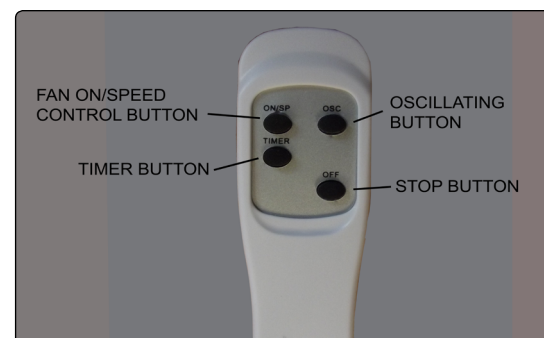

fig.7
- 5.4.1. FAN ON/SPEED CONTROL BUTTON :- Press to switch on, press again to scroll through speed settings. fig.7.
- 5.4.2. OSCILLATING BUTTON :- Press to switch on oscillation, press again to switch off oscillation. fig.7.
- 5.4.3. STOP BUTTON :- Switches fan off. fig.7.
- 5.4.4. TIMER BUTTON :- Press to select working time, 1,2,4, or 7.5 hours indicated by the LED lights on the fan control panel (ie. by adding the selected fig. displayed above LED.) fig.7.